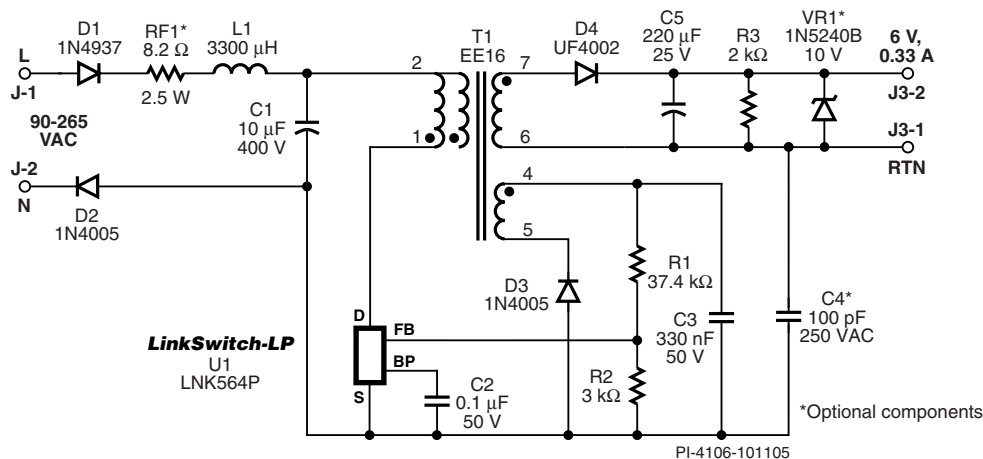
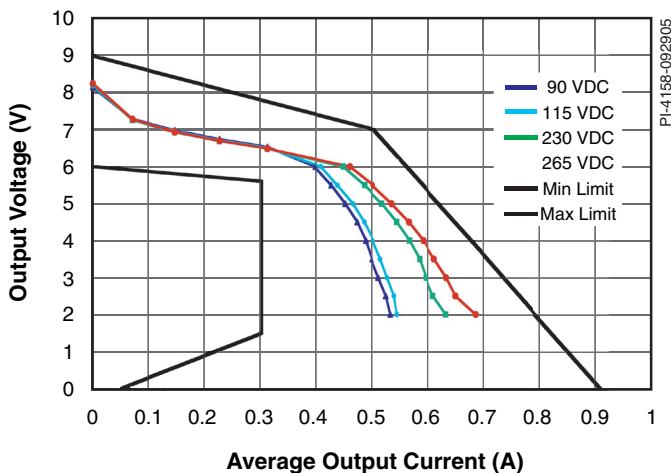

Figure 1. LNK564 Based 6 V, 330 mA, 2 W, Low-Cost, Flyback Charger Power Supply.
Figure 2. Output VI Characteristic Curves vs. Load & Line
This *LinkSwitch-LP* based flyback converter (Figure 1) provides an output VI curve (Figure 2) similar to that of an unregulated line frequency transformer based supply, but with output current that is limited past the maximum rated output power (peak power point).
- Figure 1 contains three optional components: RF1, VR1 and C4. A fusible resistor must be used if a safety agency disapproves of using L1 as a fusible component. The auto-restart function limits the output power during open loop operation, so only a 1/2 W VR1 is required if the open loop output voltage is unacceptable. Y capacitor C4 improves EMI repeatability but is not required to meet EMI limits.